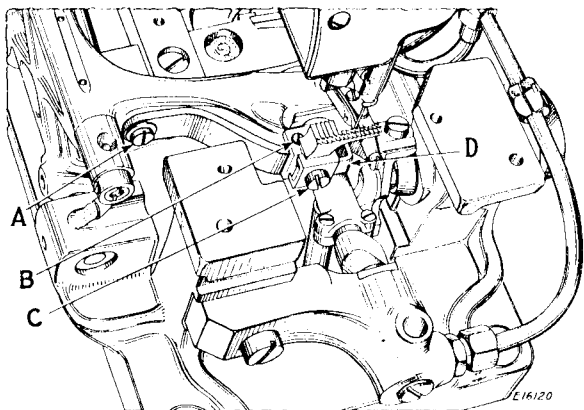

Fig. 14.
When the feed dog is at its highest position, practically the full depth of the teeth should project through the slots in the throat plate. The height of the feed dog is determined by the stop screw (B, Fig. 14, page 22) which may be turned to the right or left as required after removing the feed dog. Note that the feed dog should always rest upon the stop screw (B).
The feed dog may be leveled, or tilted to any desired position after loosening feed dog screw (C, Fig. 14, page 22) and screw (A, Fig. 14).
When the feed dog is in the desired position, and resting upon the feed dog stop screw (B, Fig. 14), tighten feed dog screw (C), then tighten screw (A).
The function of the needle guard (D, Fig. 14) is to prevent the needle springing into the path of the looper when the looper is on its forward stroke. If the machine is equipped with a movable needle guard, the guard must be reset each time the stitch length is changed.
To set the movable needle guard, loosen screw (C, Fig. 14) and move the needle guard (D) toward or away from the needle so that the guard is as close as possible to the needle without actually touching it.
Press the feed dog down upon the stop screw (B, Fig. 14), then tighten the screw (C).